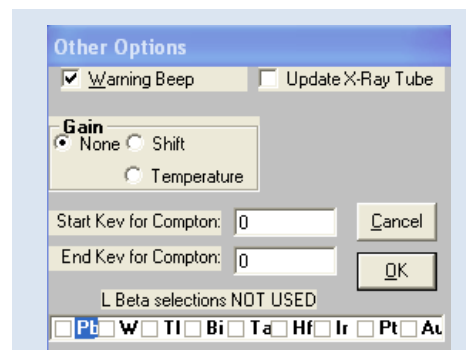

Figure 6 Other Options...
*Other Options* (Figure 6) includes a *Warning Beep* check box that enables/disables the audible alert, signifying that a timed assay is complete. Enter the *Start Key for Compton* and *End Key for Compton* to produce a Compton range that will be labeled on subsequent saved PDZ files. By default, L-alpha lines are used; if you wish to use L-beta labels, check the element box at the bottom of the window.